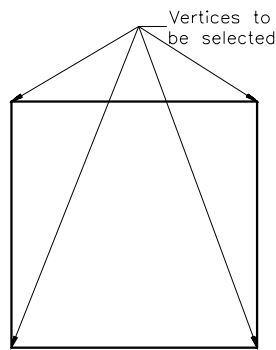
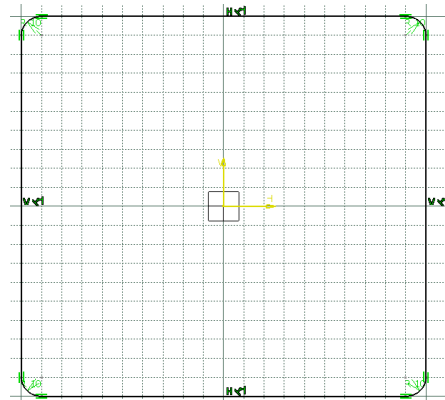

Figure 3-44 The vertices to be selected
Figure 3-45 The final outer loop of the sketch
7. Select the upper right corner of the rectangle, as shown in Figure 3-44; the sketch toolbar expands.
9. Similarly, fillet the other corners of the rectangle by following the procedure mentioned above. The vertices to be selected are shown in Figure 3-44. The final outer loop of the sketch, after filleting all vertices, is shown in Figure 3-45.